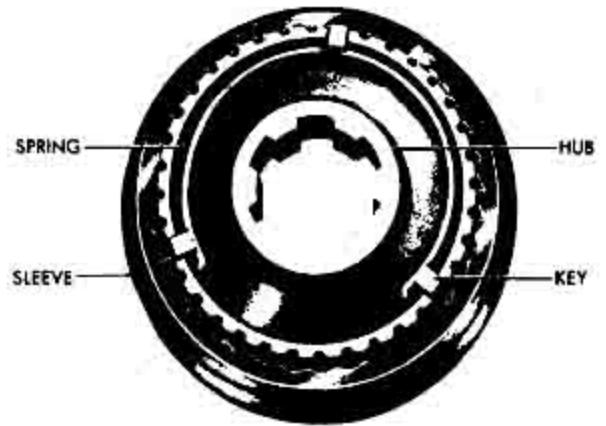

Fig. 16 Synchronizer Assembly (Less Synchronizing Rings)
The synchronizing rings (2), clutch keys (3) and clutch key springs (2) are serviced separately and may be replaced if they are broken or excessively worn. However, the synchronizer clutch hub and sliding sleeve of a synchronizer assembly are selected parts and are serviced only as an assembly (Figure 16).